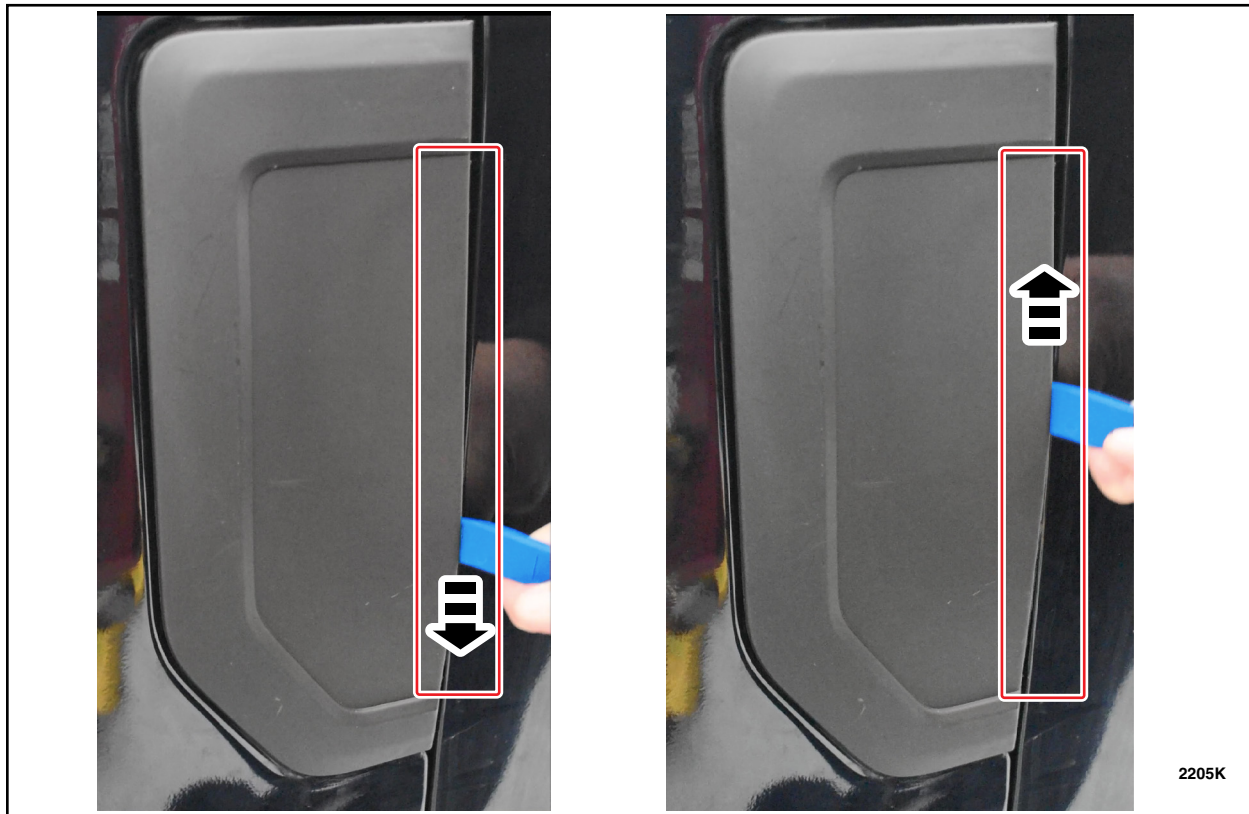

FIGURE 1
1. Using a **plastic** trim panel tool, perform the following steps; See Figure 1